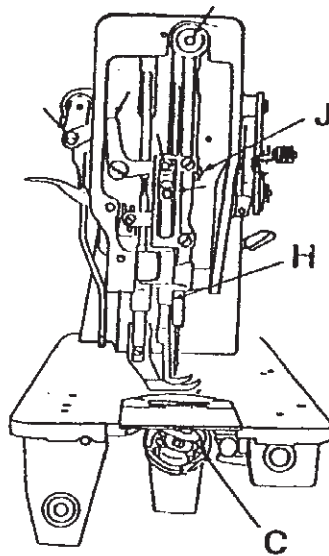
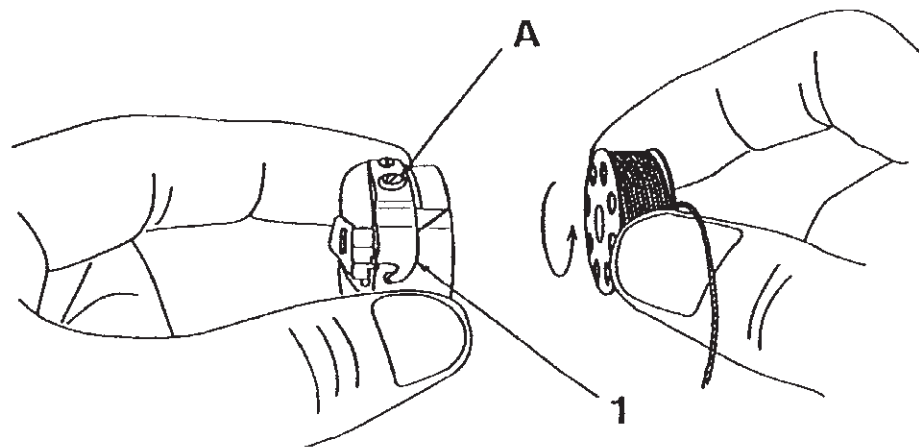

Fig.4
Fig.8
2. Pass left hand under table into opening on the drip pan. With left thumb and index finger, open the hinged latch (C, Fig.4). And pull bobbin case and bobbin from rotary hook. While the latch is held open, the bobbin will be retained in the bobbin case. Release of the latch and turning of the open side of the bobbin case downward will cause the bobbin to drop out.
3. Hold the bobbin between the thumb and forefinger of your right hand and pull out a length of about 5cm of thread. Holding the bobbin case in your left hand turn the open side up and place the threaded bobbin into it. (Fig.8)
4. With the right hand guide the thread into the slot in the edge of the bobbin case. Then pull the thread to the left, under tension spring (1, Fig.8) and into the delivery eye. In order to keep the bobbin from dropping out of the case when it is turned with the open side down, always keep the hinged latch (C, Fig.4) at the front of the bobbin case open.
5. Take the threaded bobbin case by the latch (C, Fig.4) and place it on the center stud of the bobbin case holder. Release latch and press bobbin case on to center stud until the latch catches the undercut thereon with a click that can be heard. Permit about 5cm of bobbin thread to hang down freely. Be sure to push the slide plate to the right before starting to sew.
2. Tension of the Lower (Bobbin) thread: (Fig.8)
The lower (bobbin) thread tension is controlled by the larger screw (A, Fig.8) near the end of the spring at the outside of the bobbin case. Turning this screw to the right (clockwise) will increase the thread tension, while turning it to the left (counter-clockwise) will decrease it.
2. Holding the bottom of the needle bar rock frame (H, Fig.4), move it as may be required to get the correct position to the feeder.